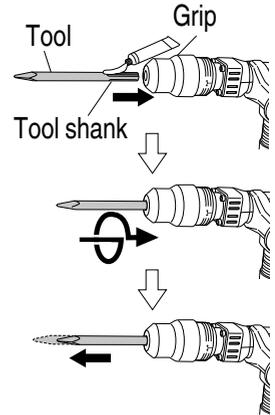

Fig. 6
- (1) Clean the shank portion of the tool.
- (2) To attach the tool (SDS max shank), insert it into the hole until it contacts the innermost end of the hole as illustrated in **Fig. 6**.